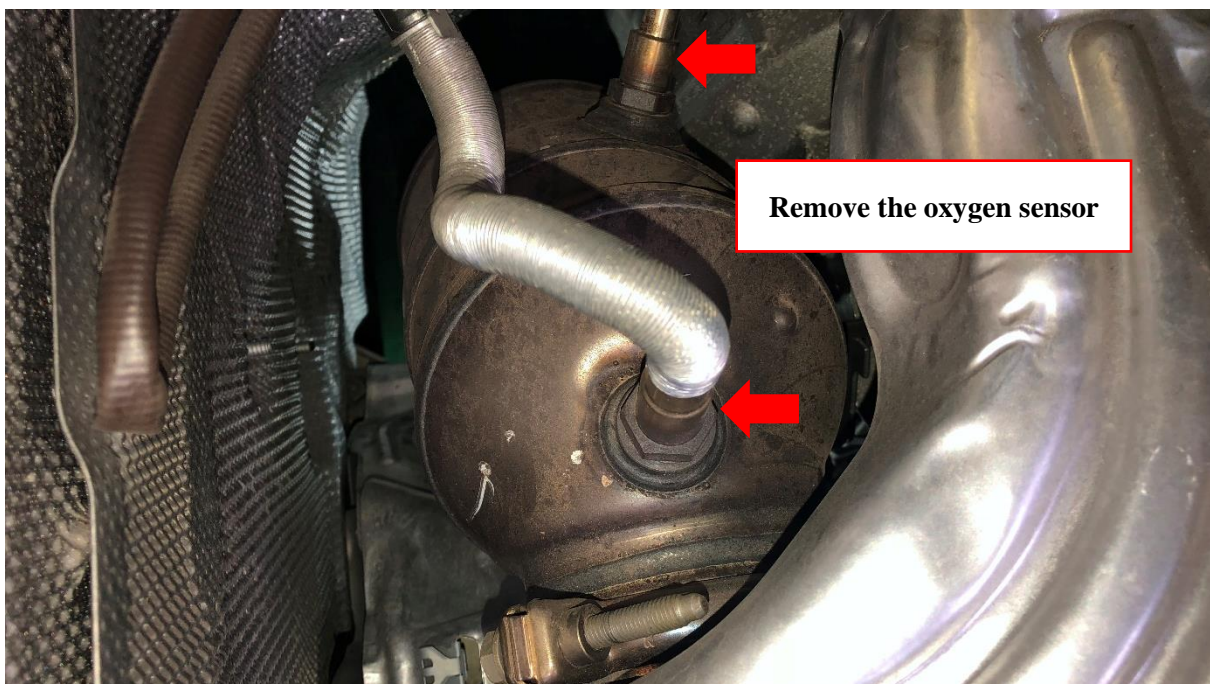

Fig.5
8. Remove the cat pipe clamps. (Fig.5)